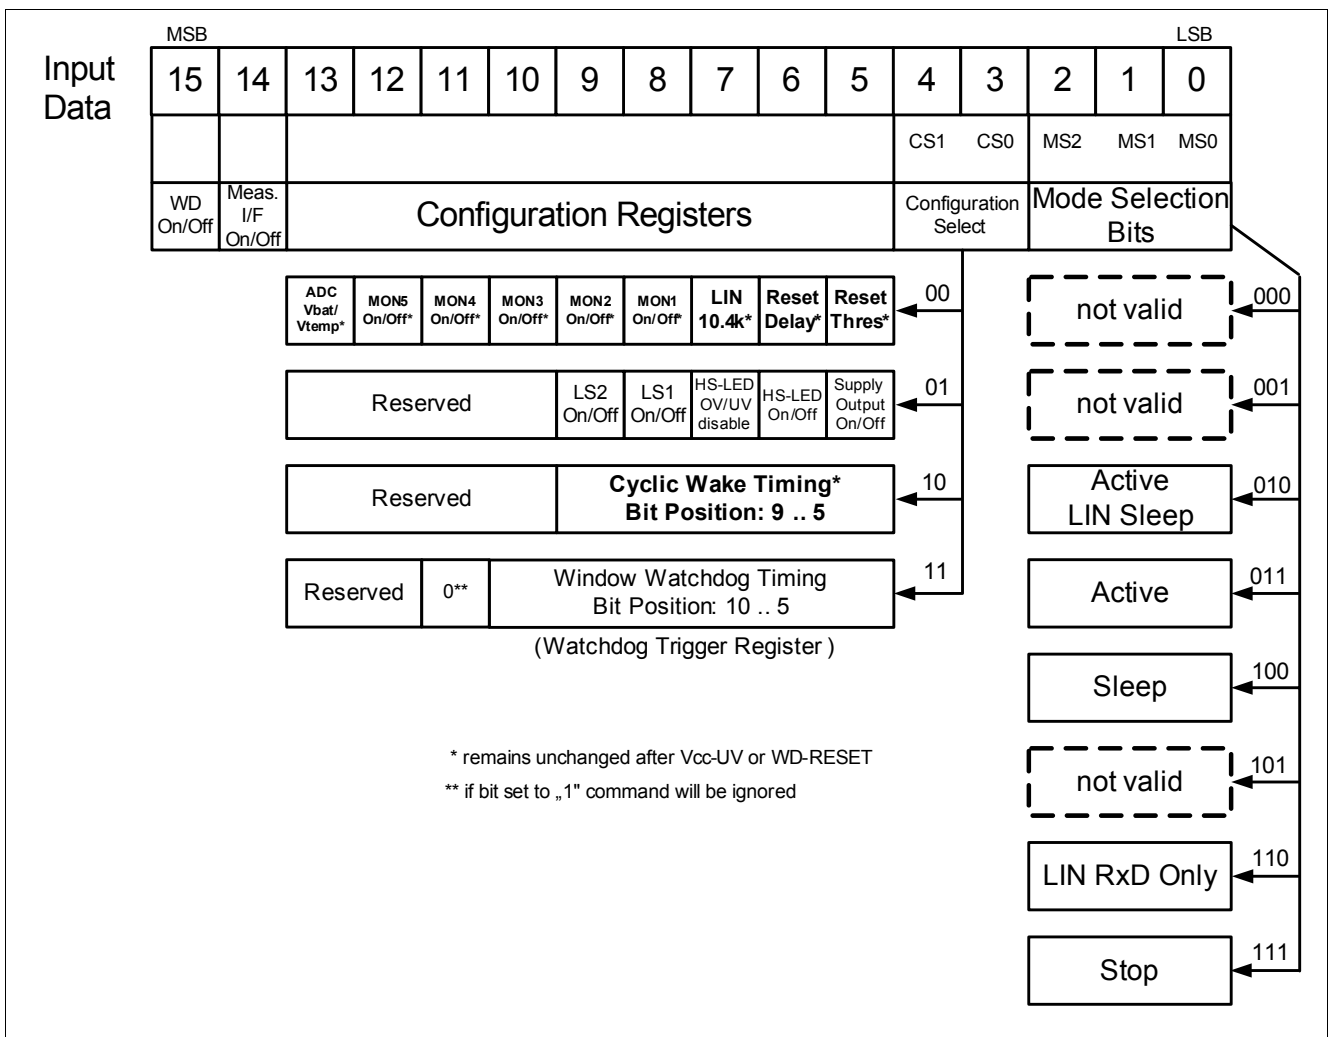

Figure 10 16-Bit SPI Input Data / Control Word
*Note: The window watchdog is automatically disabled once the LDO output current goes below a specified "watchdog current threshold", unless the SPI setting "WD On/Off" prevents this (see Figure 10, Watchdog disable current threshold, Table 14 and "Window Watchdog Reset Period Settings" on Page 22).*
*Note: The window watchdog is automatically disabled once the LDO output current goes below a specified “watchdog current threshold”, unless the SPI setting “WD On/Off” prevents this (see Figure 10).*